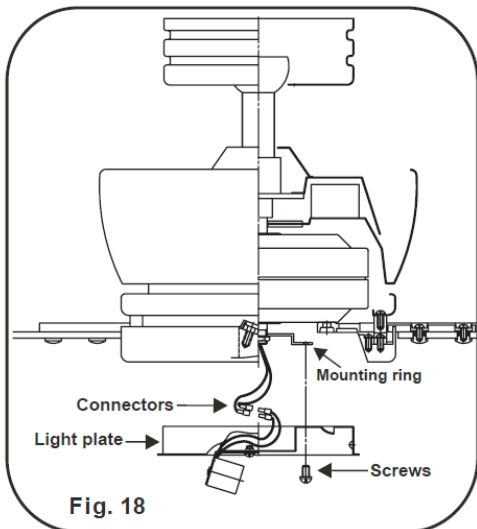

Fig. 18
2. Raise and hold the light plate close to the mounting ring and proceed to do the wire connections. Connect the white wire connectors from the light kit and fan. Follow the same procedure with the black wire connectors (Fig. 18).
3. Place the light plate key holes over the 3 screws previously loosened from the mounting ring. Turn light plate until it locks in place at the narrow section of the key holes. Secure by tightening the 3 screws previously loosened (Fig. 18).